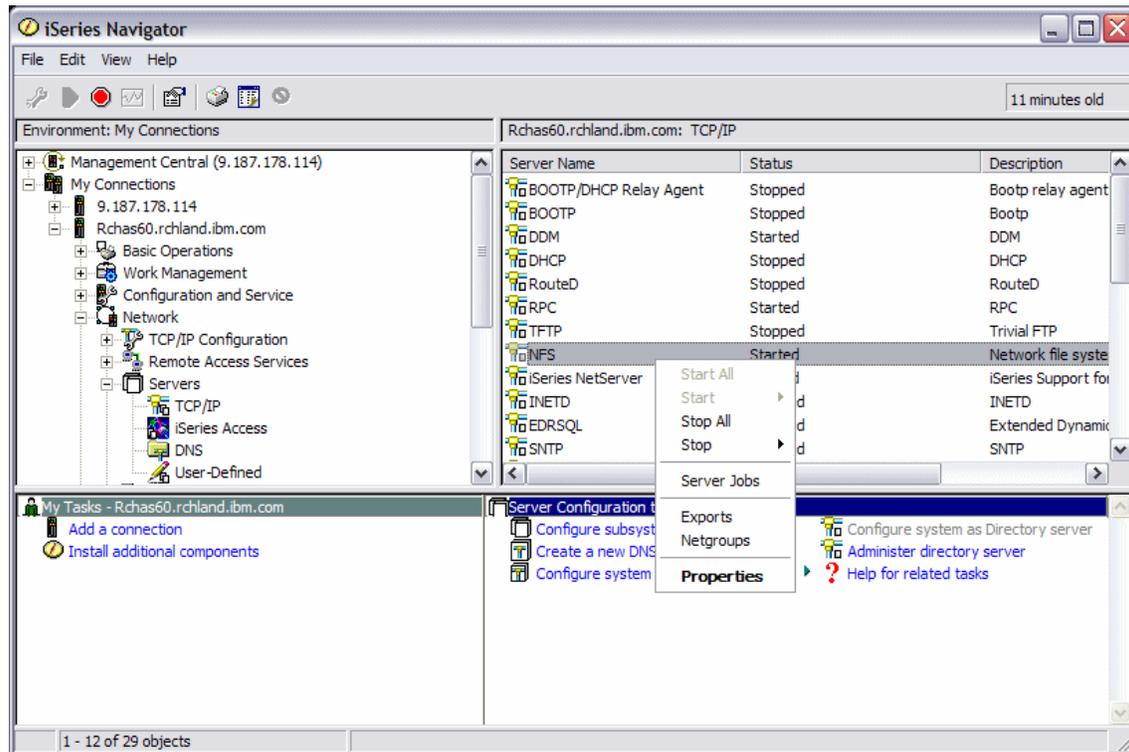

Figure A-6 System i Navigator
- After the directory has been created, you can export the directory to the NFS by using IBM System i Navigator. In the System i Navigator window, open **Network**, then **Servers**, and then click **TCP/IP**. In the right pane, right-click NFS and select **Exports** as shown in Figure A-6.